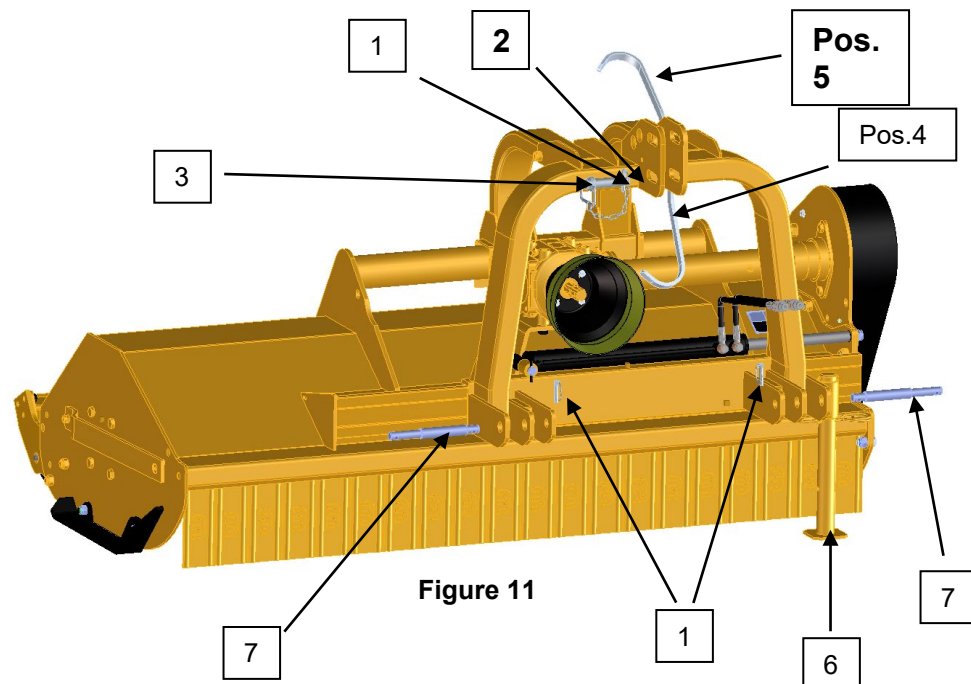

Figure 11
1. Remove the safety pins (1), remove the washer (2) and the plugs (3) (figure 11);
10. Rotate the sustaining bracket of the cardan from position (4) to position (5) (figure 11);